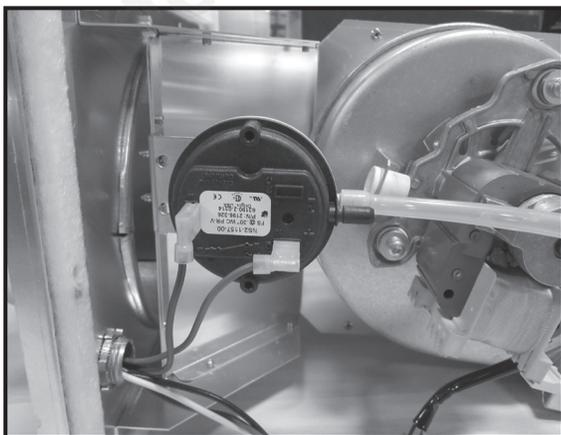

Figure 3.12
5. Attached the red and brown wires to the pressure switch. See Figure 3.12.